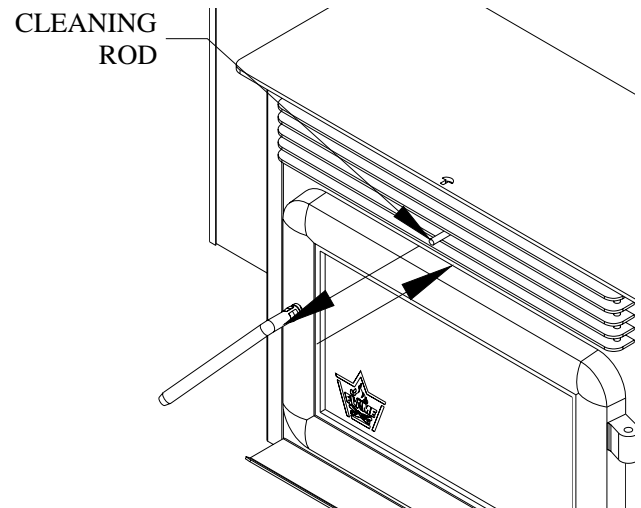

Figure 40
- With the door closed, clean heat exchanger tubes by sliding the cleaning rod back and forth. (see Figure 40) .
- a. **Heat Exchange Tubes** – Your FP-35 stove is designed with a built-in heat exchanger tube cleaner. This should be used weekly to remove accumulated ash on the tubes. Slide the cleaning rod back and forth two or three times from front to back (refer to figure 40). When finished, push the cleaning rod back in, behind the louvers.